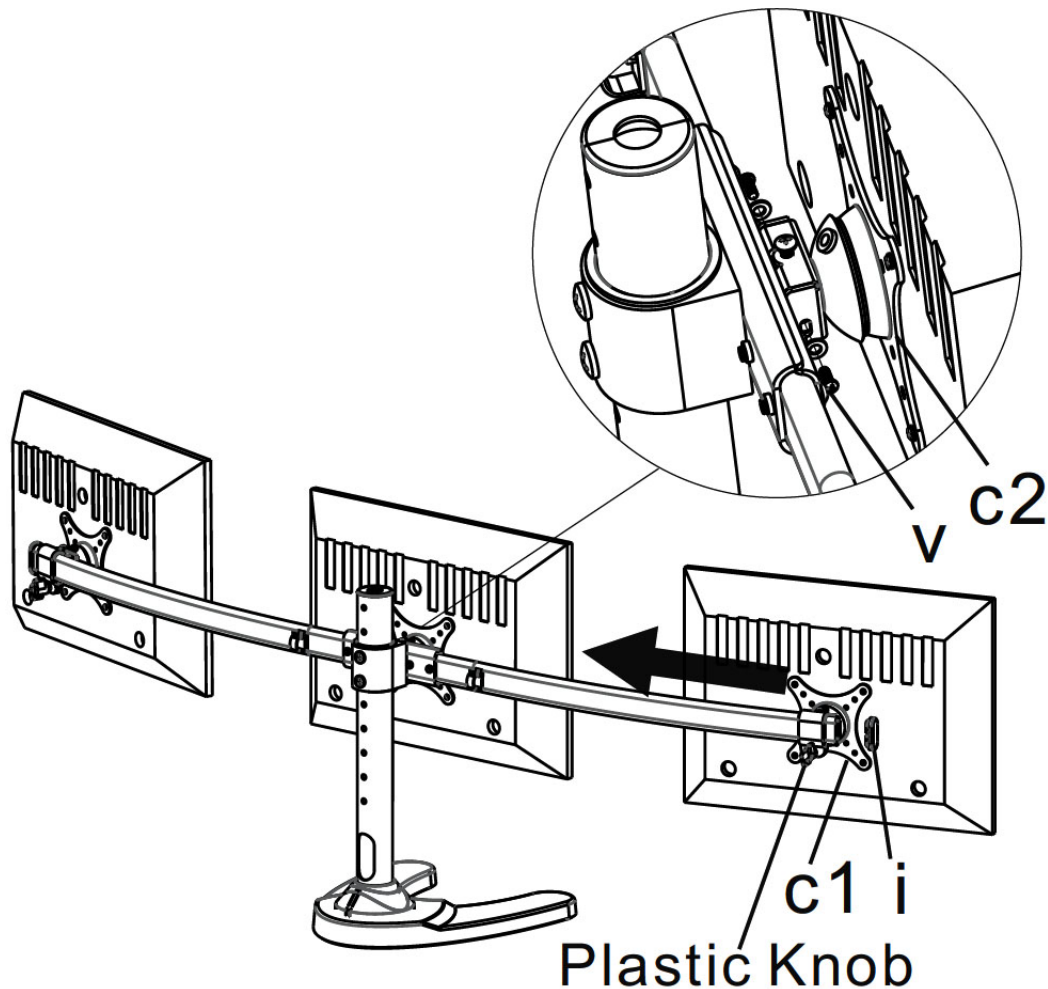

Figure 4a
1. Attach the **Middle VESA Plate (c2)** with Monitor Assembly and secure it using **M4x16 Bolt with Washers (v)**, then slide the **Side VESA Plate (c1)** with Monitor Assemblies onto the Arm Assembly and secure by rotating the **Plastic Knob**. Install the **Arm Plastic Covers (i)** onto the Arm Assembly as shown in **Figure 4a**.